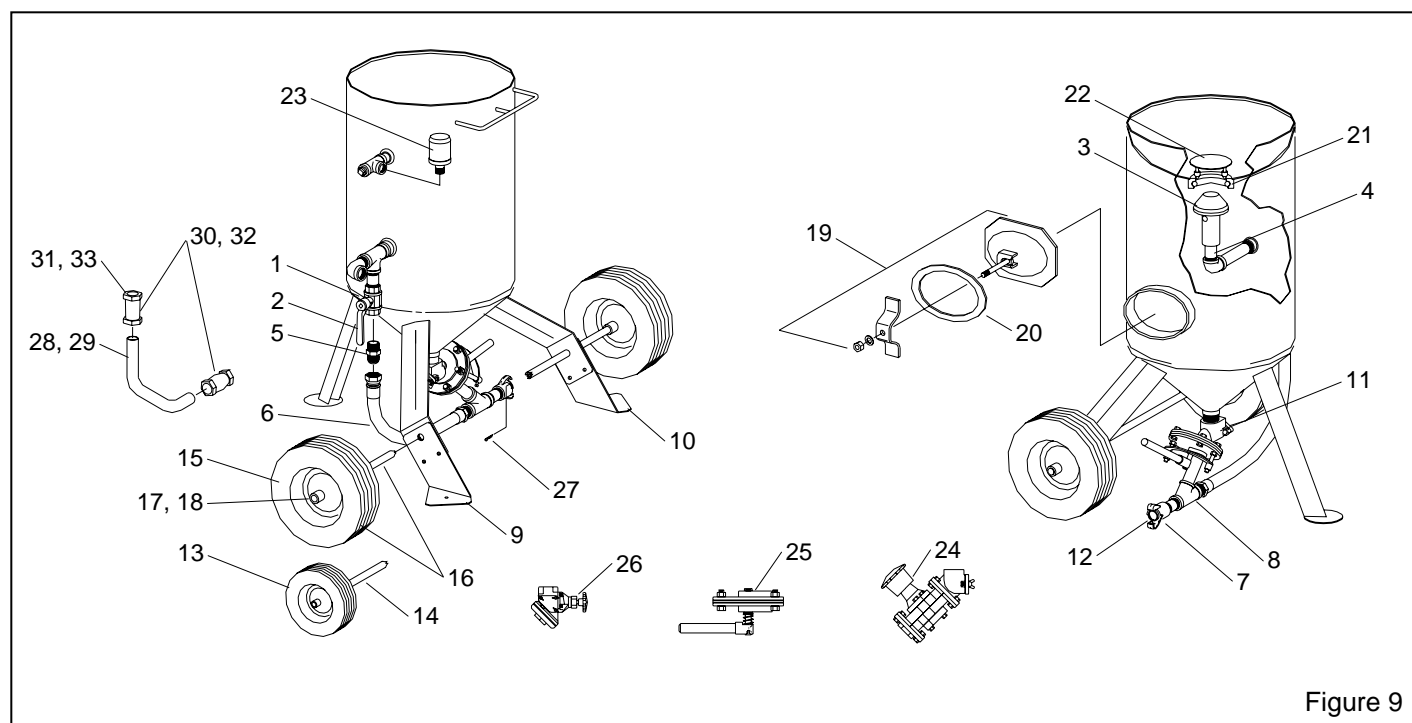

Figure 9
7.2 Blast Machine and Accessories, Figure 9